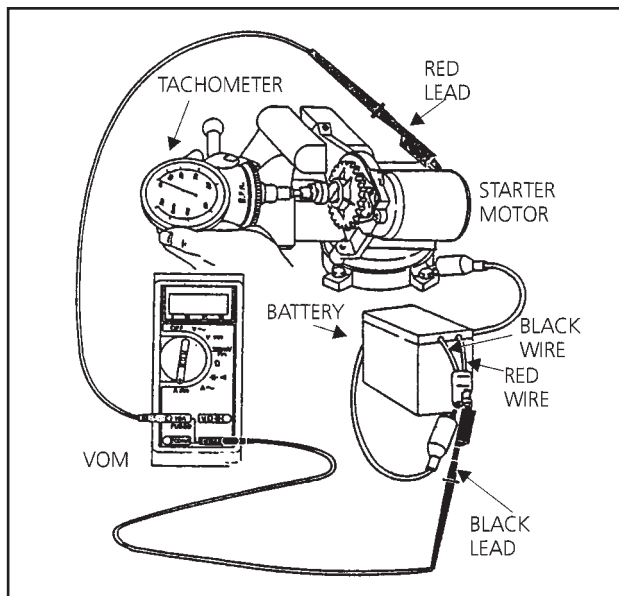

Figure 6.2 — Starter Performance Test
2. Connect the STARTER MOTOR, BATTERY and VOM as shown in Figure 6.2.